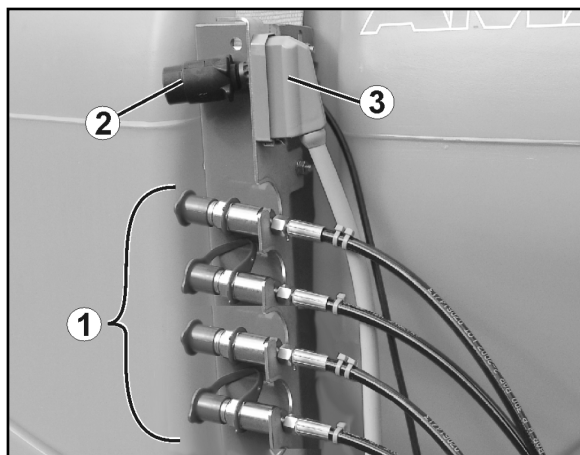

Fig. 10
- Fig. 10/...
- (1) PTO shaft guard
- (2) Machine PTO shaft guard